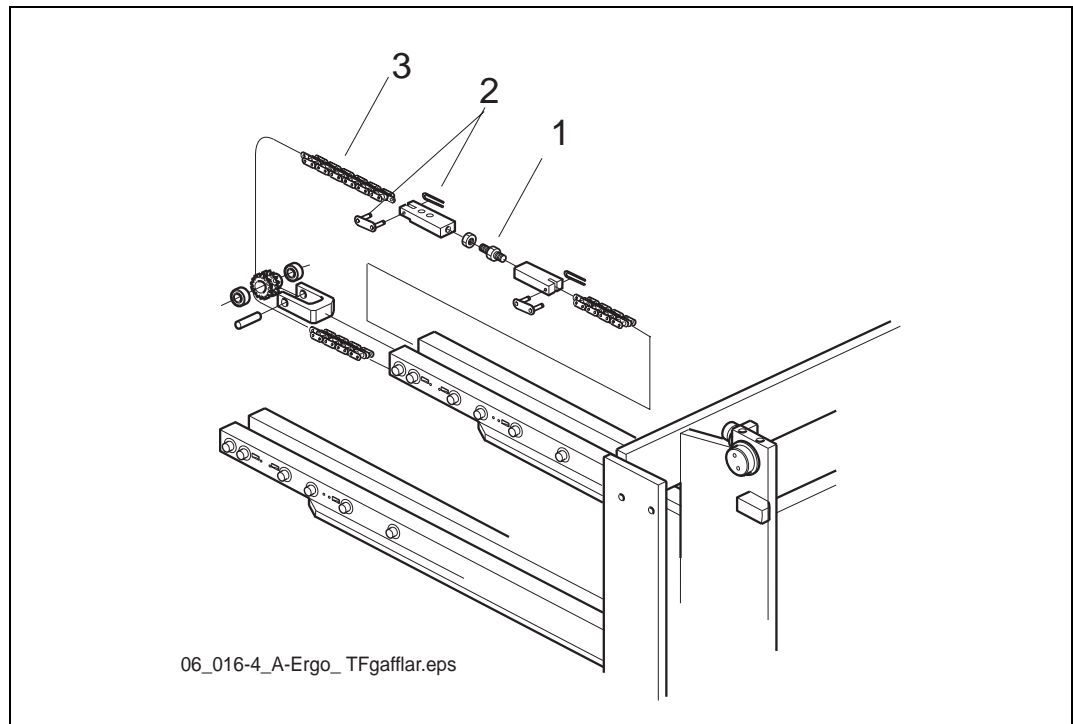

Figure 6.32 Chain adjuster
8. Release the chain adjuster, pos. 1 figure 6.32.
9. Remove the chain lock, pos. 2, and remove the chains, pos. 3 figure 6.32.